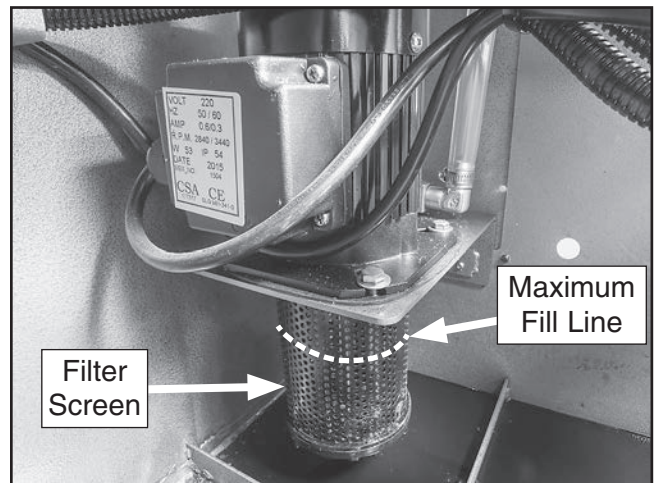

Figure 90. Maximum fill line on filter screen.
4. Fill reservoir with coolant until it is at maximum fill line shown in **Figure 90**.